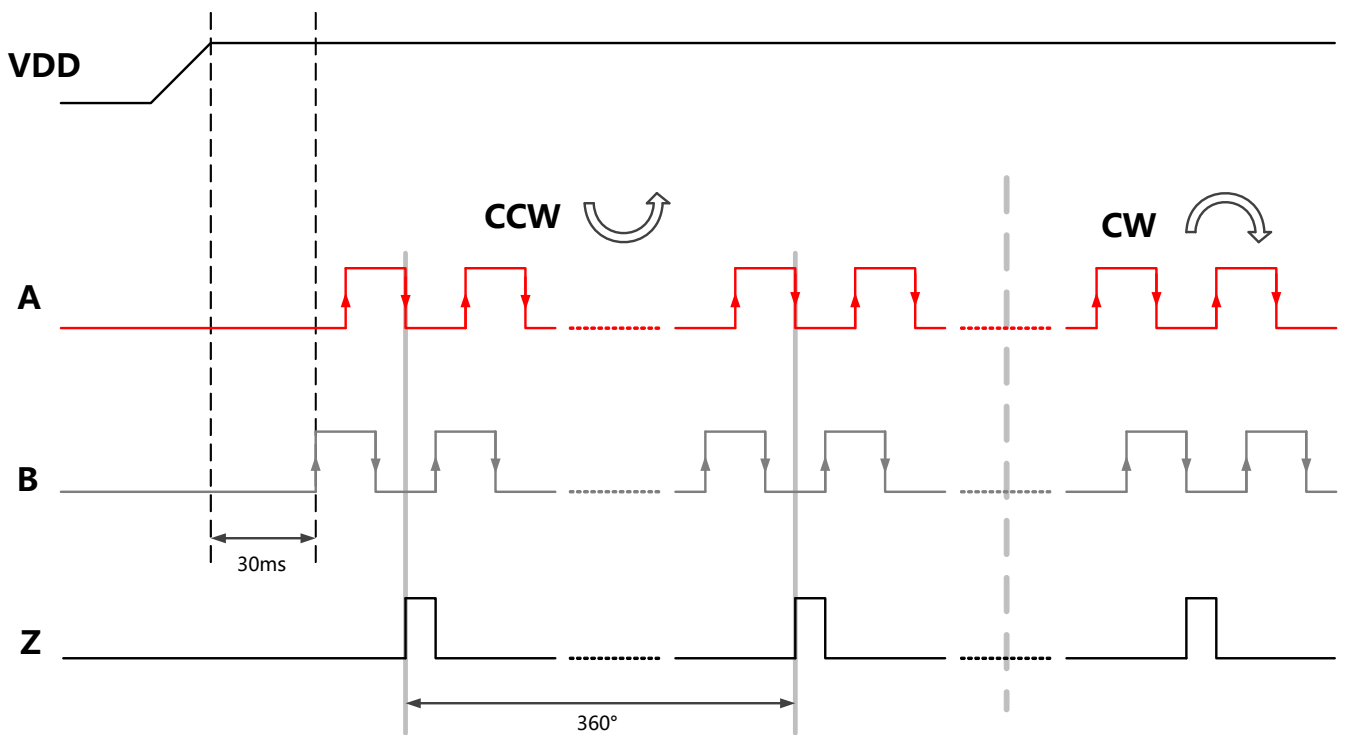

Figure 8: ABZ output with VDD power on
As shown in Figure 8, when the magnet rotates counter-clock-wise (CCW), output B leads output A by 1/4 cycle, when the magnet rotates clock-wise (CW), output A leads output B by 1/4 cycle (or 1 LSB). Output Z indicates the zero position of the magnet.